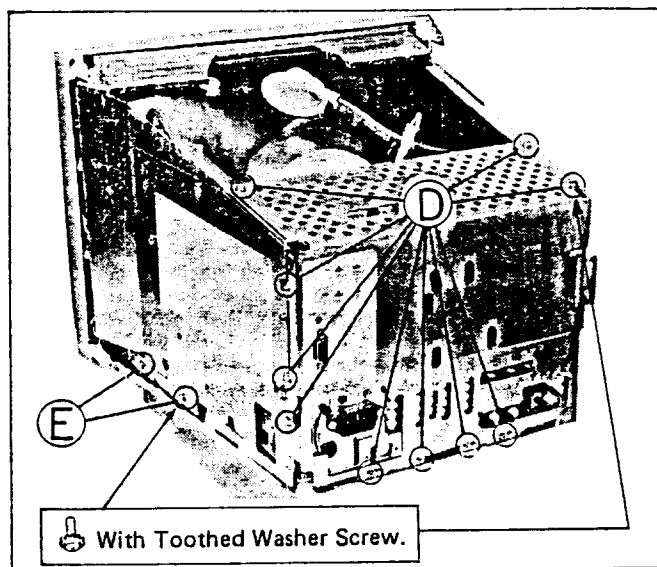

Fig. 3
1. Unscrew the thirteen screws marked (D) shown in Fig. 3 and 4, and remove the rear shield.
2. Remove the eight screws marked (E) shown in Fig. 3.